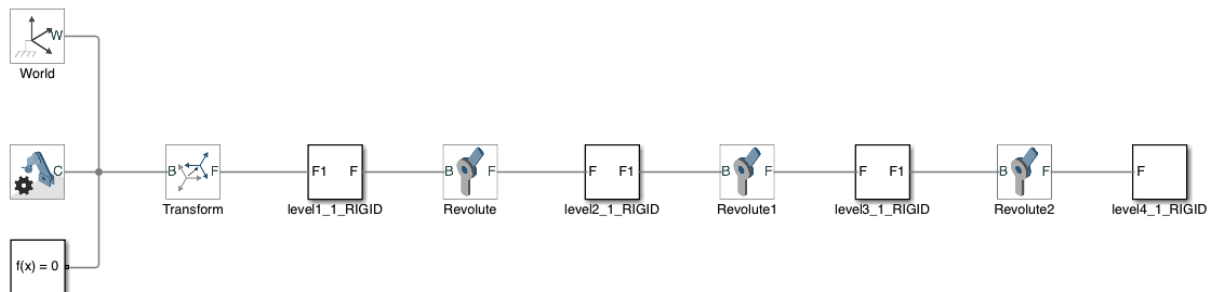

Figure 15: multibodyRobot Block Diagram
3. After the command is finished, the “multibodyRobot” Simulink block diagram will open, as seen in figure 15. Now, run the simulation. Since this model has many details, it will take some time to process. Once, complete the Mechanics Explorer window will open showing the simulation. The motion of the robot will be chaotic. The following steps will correct it.